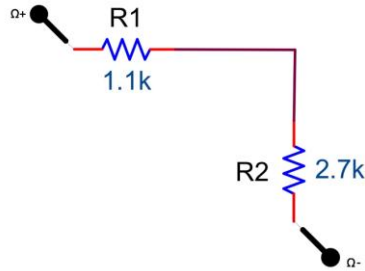

Figure 2.3
2. Construct the circuit in Figure 2.3 and measure R_T . Record the values.